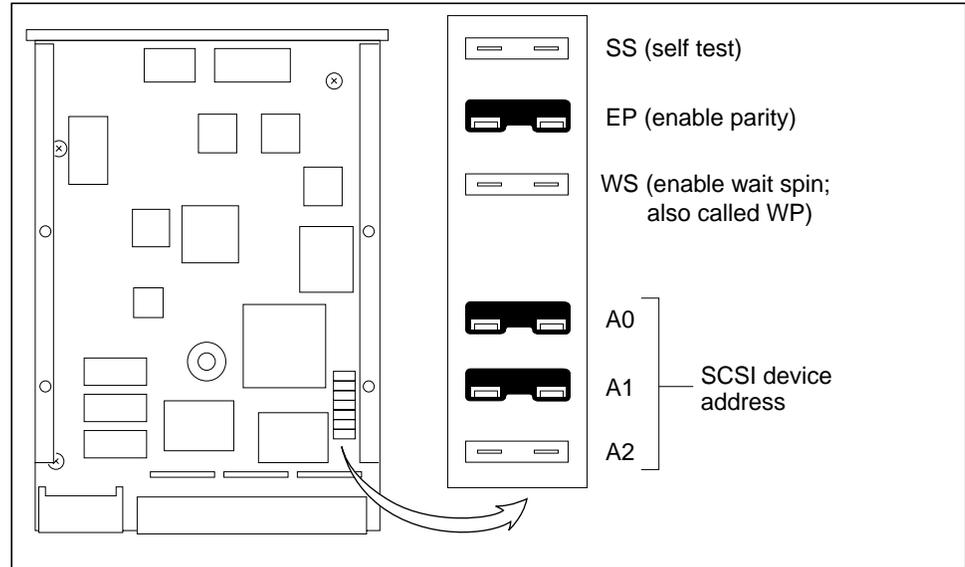

Figure 2-3 Hard Disk Drive with 6 Jumpers — Jumper Setting for Drive 1
| 1   | 3                  | see Figure 2-3 and Figure 2-4 | sd @ 3, 0               | sd0               |
**Note** – The marking for the jumpers on the drive shown in Figure 2-3 and are etched or labeled onto the drive’s controller board. The jumpers on the drive shown in Figure 2-3 and Figure 2-5 are not marked on the drive’s controller board.
- 2. Inspect the jumper settings. Compare them to the settings shown in Figure 2-3 or Figure 2-3, as follows:**